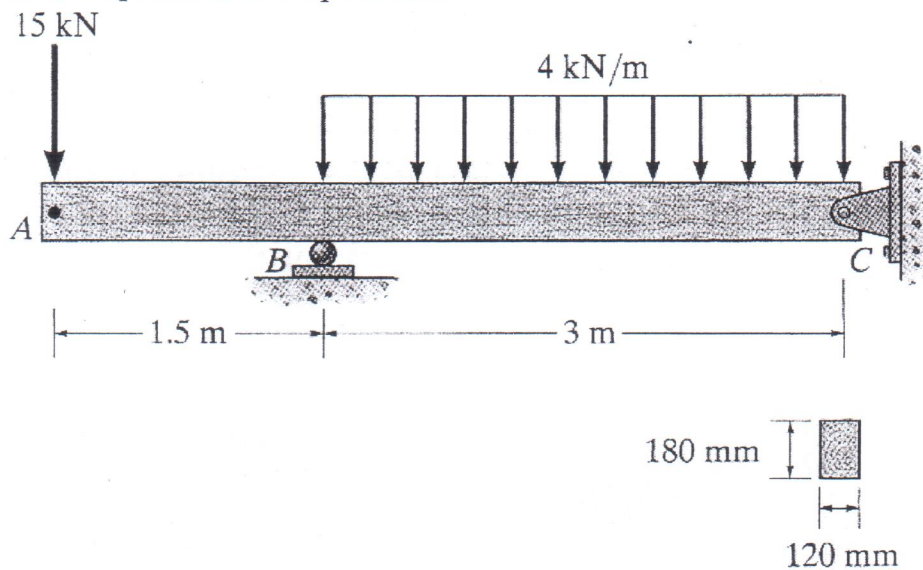

Figure1.
- (1) The loaded beam shown in **Figure 1** is made of southern pine for which $E = 13 \text{ GPa}$. Determine the slope of deflection at points A , B and C and the deflection/displacement at point A .